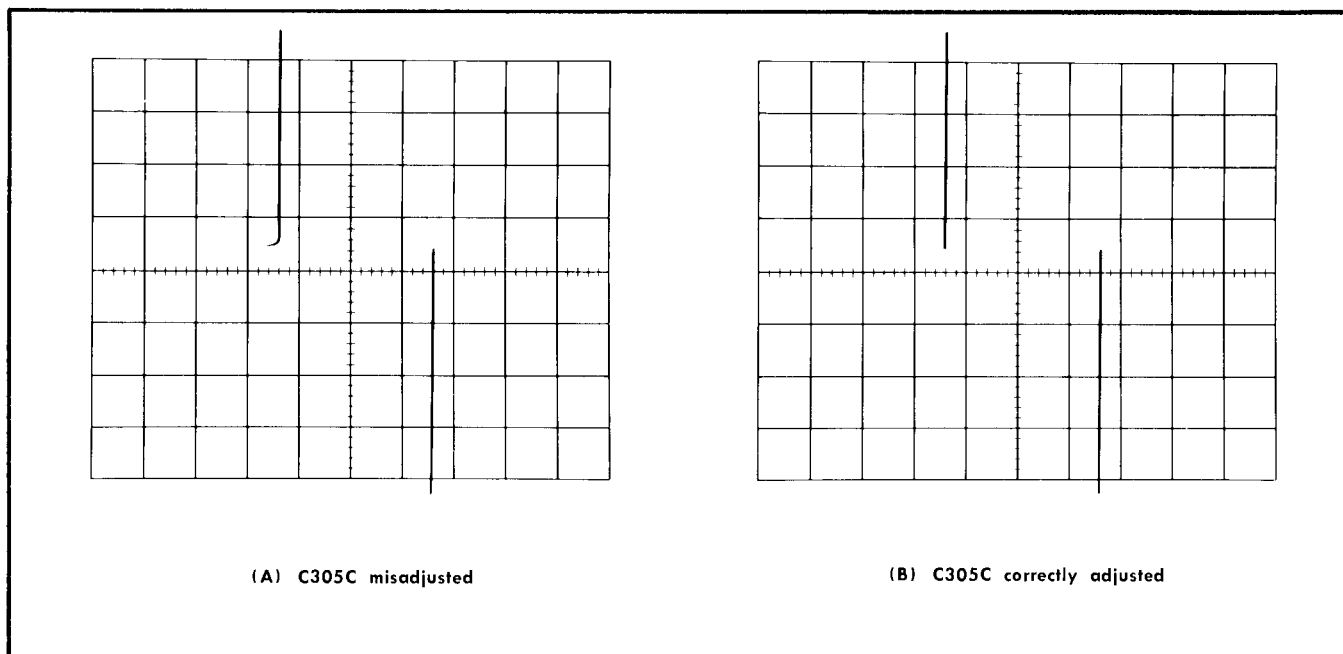

Fig. 6-23. Horizontal Amplifier attenuator compensation; 1 kHz square-wave input; SWEEP TIME/CM switch setting, .1 mSEC.
- n. Check—Square front corner on waveform, with overshoot or rounding not exceeding 2% of the display amplitude. (See Fig. 6-23 for typical displays.)